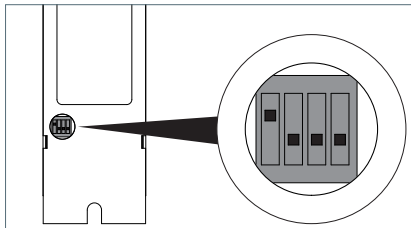

Fig. 29: DIP switch position for the Advanced Single Control function
- ▶ Set the DIP switch no. 1 to the "ON" position, see Fig. 29.